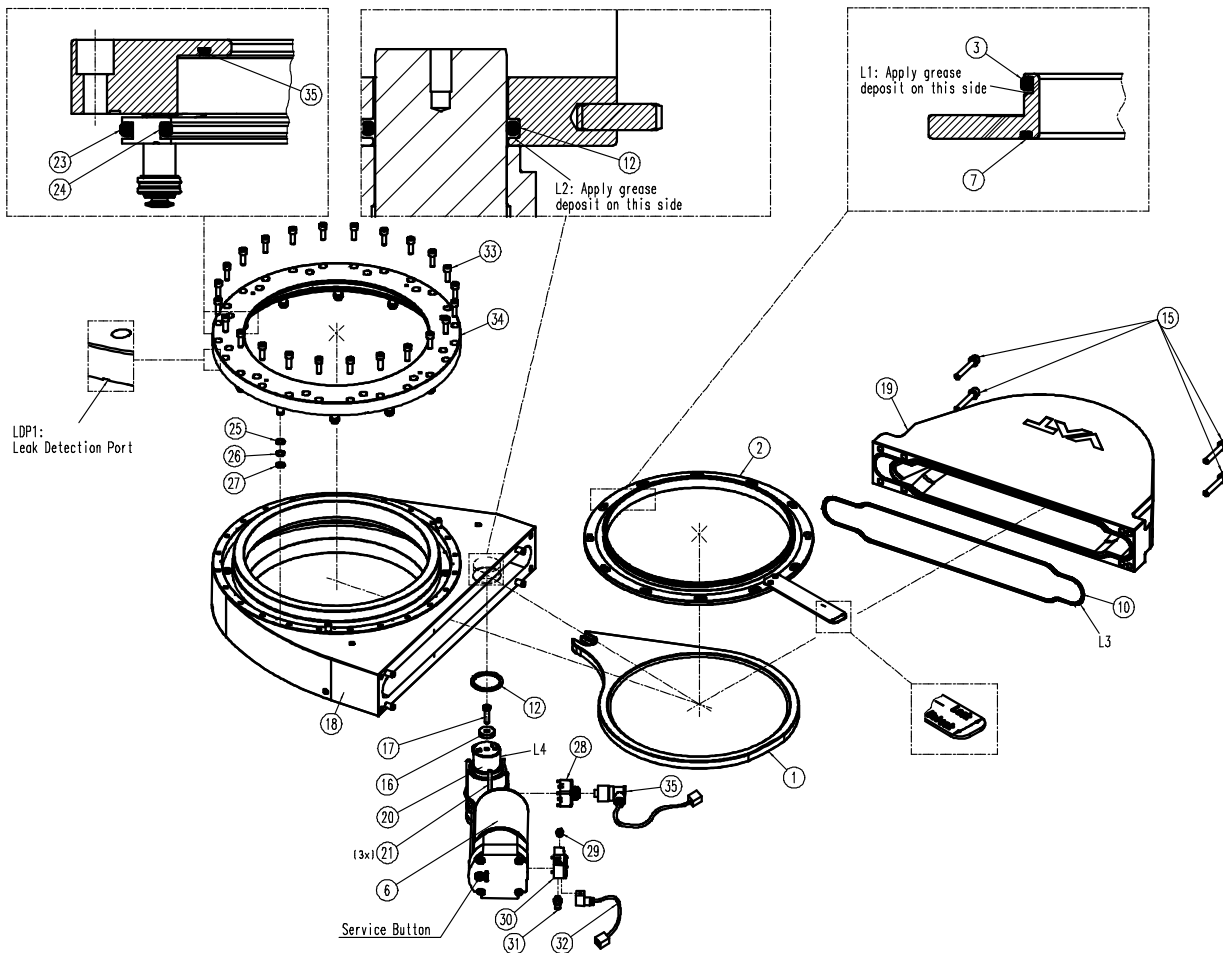

Figure 12-1
7. Remove the gate fixation screw (17).
8. Pull out the gate (1) from the actuator shaft (20).
9. Place the gate (1) on a clean surface.
Push the service button during this step; see «Figure 12-1» on page 28 and unlock the sealing ring (2) by moving / turning into the “Unlock” position.
10. Remove the sealing ring (2) from the valve body (18).
11. Place the sealing ring (2) on a clean surface.
12. Remove the gate seal (7) and the dynamic seal (3) from the sealing ring (2); use O-ring removal tool.
13. Clean the sealing ring (2), the dynamic seal (3) and the gate seal (7); use cleanroom wiper.
14. Replace the gate seal (7) and / or the dynamic seal (3) of the sealing ring (2) if necessary.
15. Uniformly lubricate the dynamic seal (3) with the amount of grease specified in chapter «6.2 Lubrication specifications»; lubrication location L1.
16. Install the dynamic seal (3) on the sealing ring (2).
17. Install the gate seal (7) into the sealing ring (2).
18. Clean the gate (1) especially the sealing surfaces of the gate; use cleanroom wiper.
19. Clean the valve body (18) and especially sealing surfaces of the dynamic seal (3) of the valve body (18); use cleanroom wiper.
20. Insert the sealing ring (2) into the valve body (18).
Push the service button during this step; see «Figure 12-1» on page 28 and lock the sealing ring (2) by moving / turning into the "Lock" position.
21. Locate the gate (1) on the actuator shaft (20) below the alignment piece (16).
22. Push the gate (1) into the direction of the actuator axis to the hard stop.
23. Fasten the gate fixation screw (17) according the type of the screw.